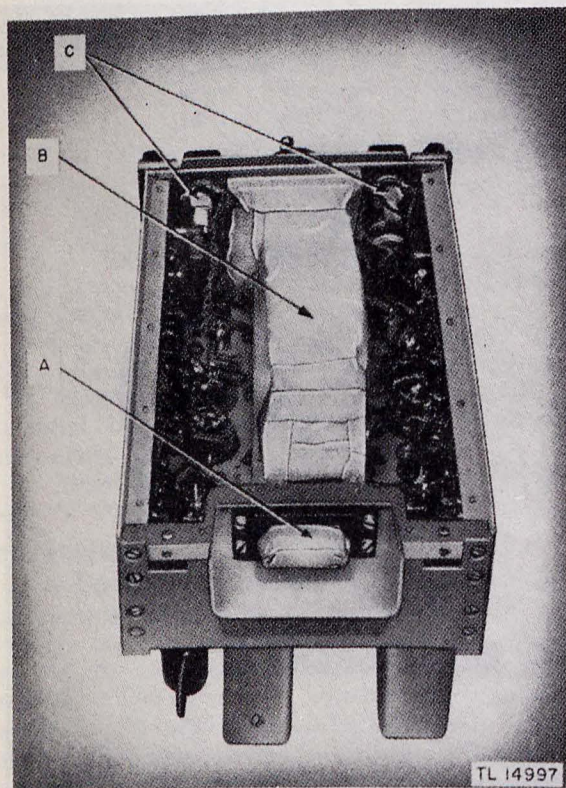

Figure 35. Radio Receiver BC-652-A, bottom view of receiver chassis masked for moistureproofing and fungiproofing.
(5) Mask prongs of interconnecting plug, item A, figure 35.
(6) Mask tuning capacitor, item B, figure 35.
(7) Mask opening and contacts of phone and speaker jacks, item C, figure 35.